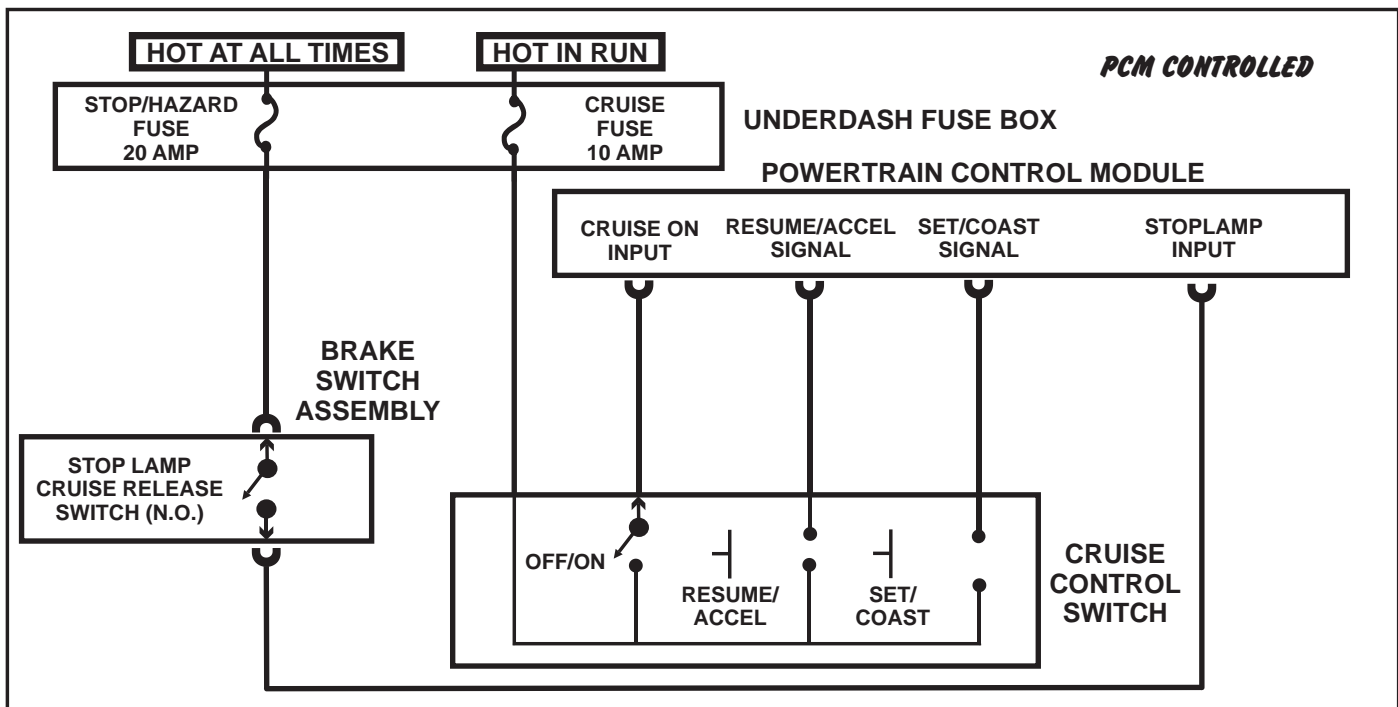

Figure 156
- On systems that are PCM controlled, check the “Cruise ON/OFF” circuit, (Refer to Figure 156).